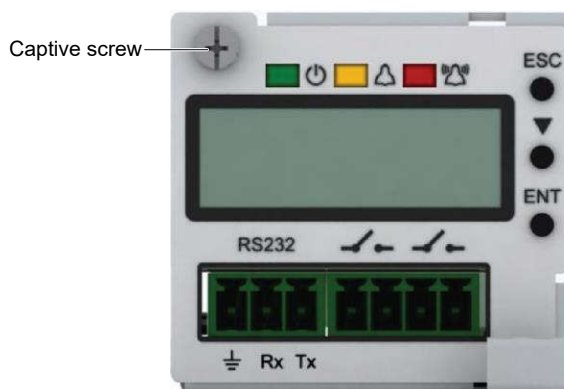

Figure 4-2 M225S Controller replacement (1)
2. Loosen the captive screw of the controller, as shown in Figure 4-2.